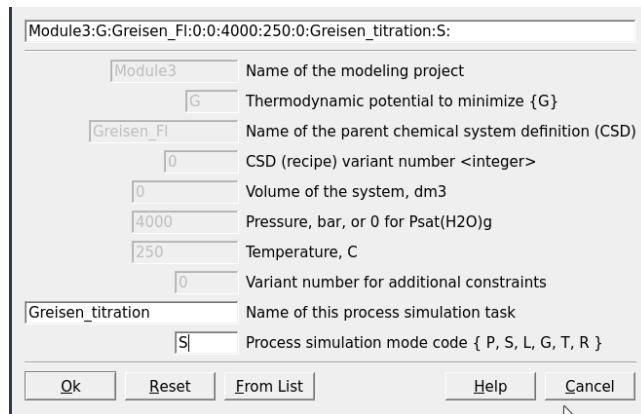

Figure 3.15: Name the 'Process' simulator and indicate the model type.
- Create a titration model similar to Module 2 for the feldspar reaction path, except this time we will choose "R_leucogranite" as the titrant. The simulation conditions will be 250 °C and 4000 bar, and we will add 0.1 g to 2000 g of R_leucogranite to Fluid_greisen. Figures 3.15, 3.16, and 3.17 show the parameters to be entered in the subsequent **Process** wizard windows. Don't forget to un-tick the box "Save generated SysEq records" in Step 5 to avoid saving too many **SysEq** records.